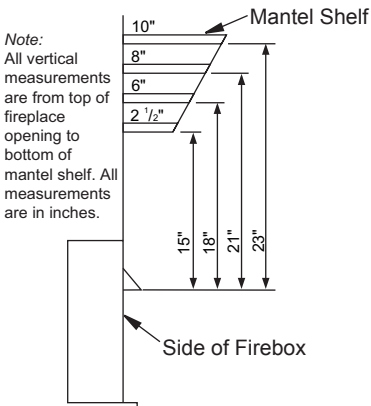

Figure 11 - Minimum Mantel Clearances for Built-In Installation
C. For mantel clearances, see Figure 11 on page 12.
Built-in installation of this fireplace involves installing fireplace into a framed-in enclosure. This makes the front of fireplace flush with wall. An optional trim kit accessory is available (see Accessories, page 38). Trim will extend past sides of fireplace approximately 1/2". This will cover the rough edges of the wall opening. If installing a built-in mantel above the fireplace, you must follow the clearances shown in Figure 11, page 12. Follow the instructions below to install the fireplace in this manner.